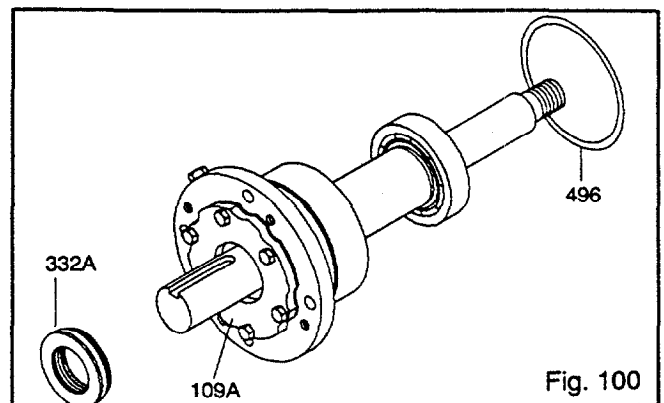

Fig. 100
9. Install new O-ring (496) (Fig. 100).